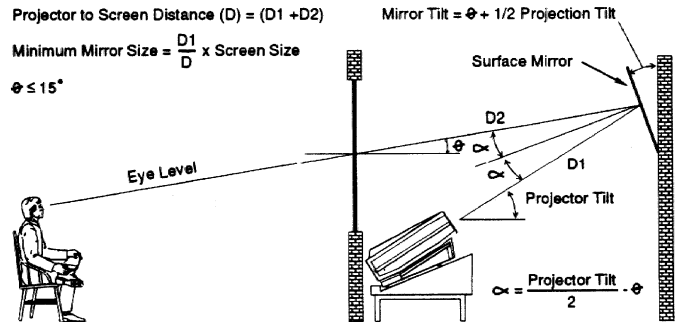

Figure 2-14. Folded Optics
In situations where the space behind the projector is limited, a mirror may be used to fold the optical path as illustrated in Figure 2-14. If a diffused screen is used, the projection angle  $\phi$  should be less than 15°. If an optical screen is used, the optical path between the mirror and the screen should be perpendicular to the screen. Much attention must be given to the positioning of the projector and the mirror. This can be quite difficult for installers unfamiliar with this type of installation. It is recommended that your dealer or an experienced installer perform the installation.
*Note: When using a mirror as shown in Figure 2-14, the calculated throw distance (D) is the summation of D1 and D2.*